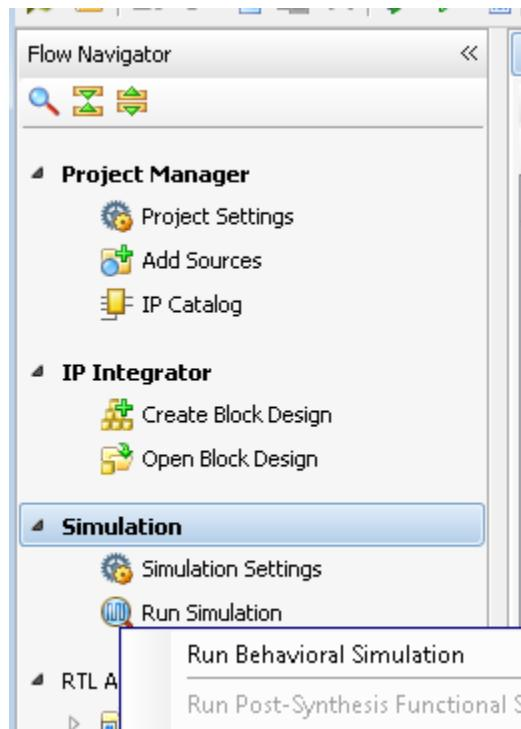

Figure 216 Execute Simulation
10. Click on Run Simulation in the Flow Navigator (Figure 216).